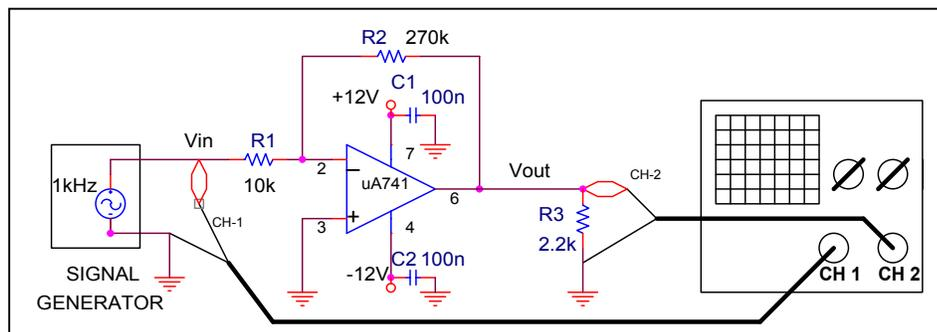

Figure 6.8 Measurement circuit for inverting amplifier
- [8 MARKS]** Simulate the inverting amplifier shown in Figure 6.8. Plot both the output and input waveforms for a *sine waveform* input signal with $V_{in_{p-p}}=0.4V$ at 1kHz.
2.1. Build the circuit of Figure 6.8 using an 8-pin uA741 op-amp with $R_1 = 10\text{k}\Omega$, $R_2 = 270\text{k}\Omega$. To achieve better circuit stability, connect 100nF capacitors between the pins #4 and #7 of the uA741 and the Ground, as shown in Figure 6.8.
Circuit of Figure 6.8 connected and equipment used correctly
15	Circuit of Figure 6.8 connected and equipment used correctly